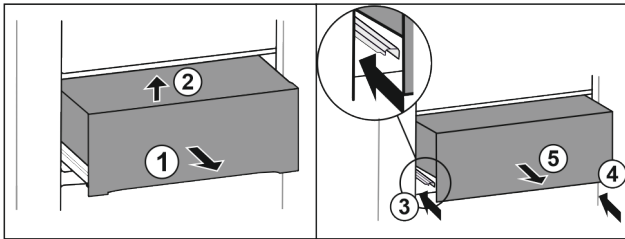

Fig. 30
- ▶ Pull out the drawer halfway Fig. 30 (1).
- ▶ Lift at the front Fig. 30 (2).
- ▶ Slide in left rail Fig. 30 (3).
- ▶ Slide in right rail Fig. 30 (4).
- ▶ Remove the drawer to the front Fig. 30 (5).